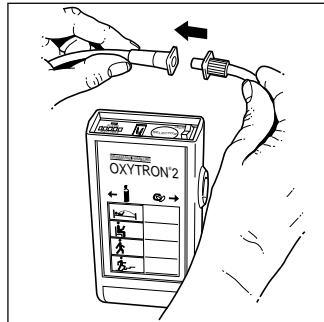

Fig. 21
Should OXYTRON®2 fail to function because of a spent battery or other defect, the spiral hose (20) can be connected directly to the oxygen nasal cannula (7) as shown in Fig. 21, giving a constant flow of 2 l/min. The oxygen supply must then be checked frequently, since the consumption is now much higher.